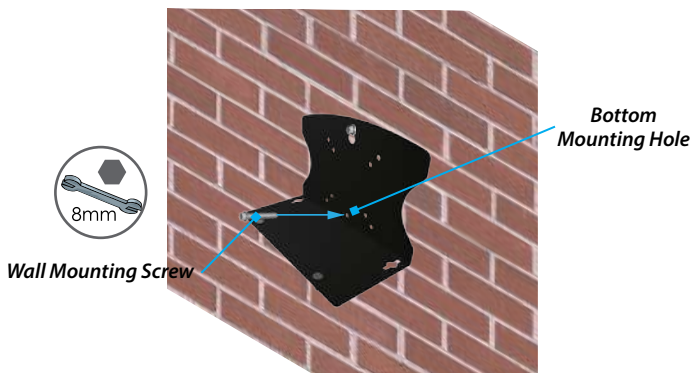

Figure 8
11. Insert the remaining **Wall Mounting Screw** (x 1) through the **Bottom Mounting Hole**. Use the **1 1/32 in (8 mm) Wrench** to **Tighten** all the **Wall Mounting Screws** (x 2) to secure the **Wall Mount Bracket**. Figure 8.